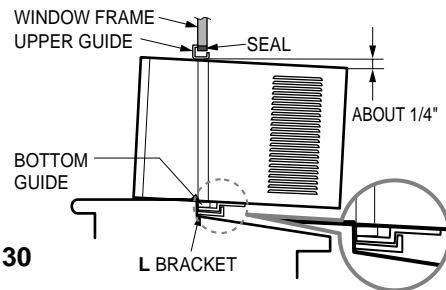

Figure 30
- While steadying the air conditioner, carefully bring the window sash down behind the upper guide of the air conditioner, as shown in Fig. 30.